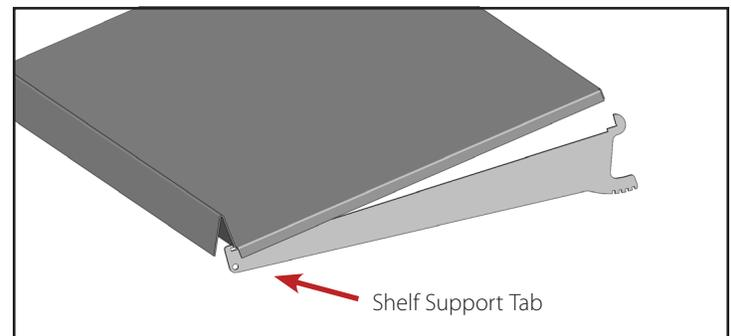

Fig. 4. Install the shelves.
- b. Move the back of the shelf up and back until the front of the shelf clears the shelf support tab on the shelf bracket. See fig. 4.